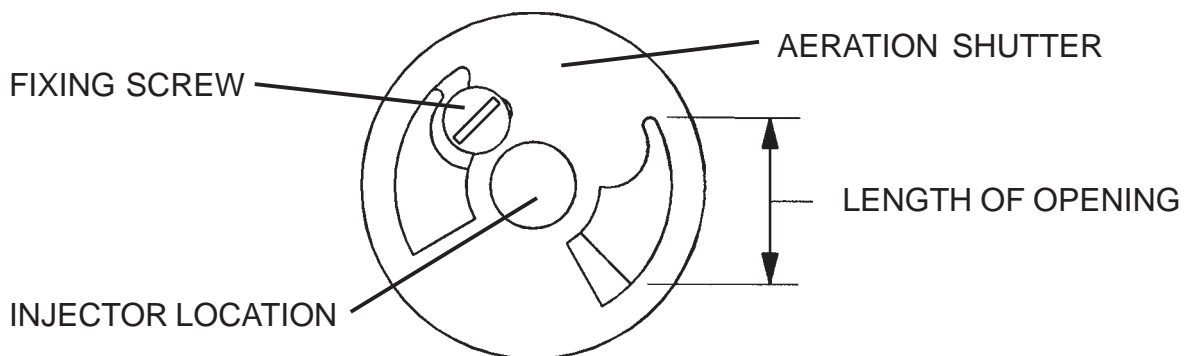

FIG. 1
1. Check that the aeration shutter is set to provide the required opening per Table C (See Figure 1).